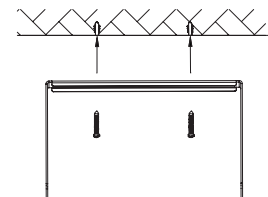

FIG. 9
- Attach the U-bracket to mounting surface utilizing appropriate hardware based upon the material of the ceiling. (Fig. 9)